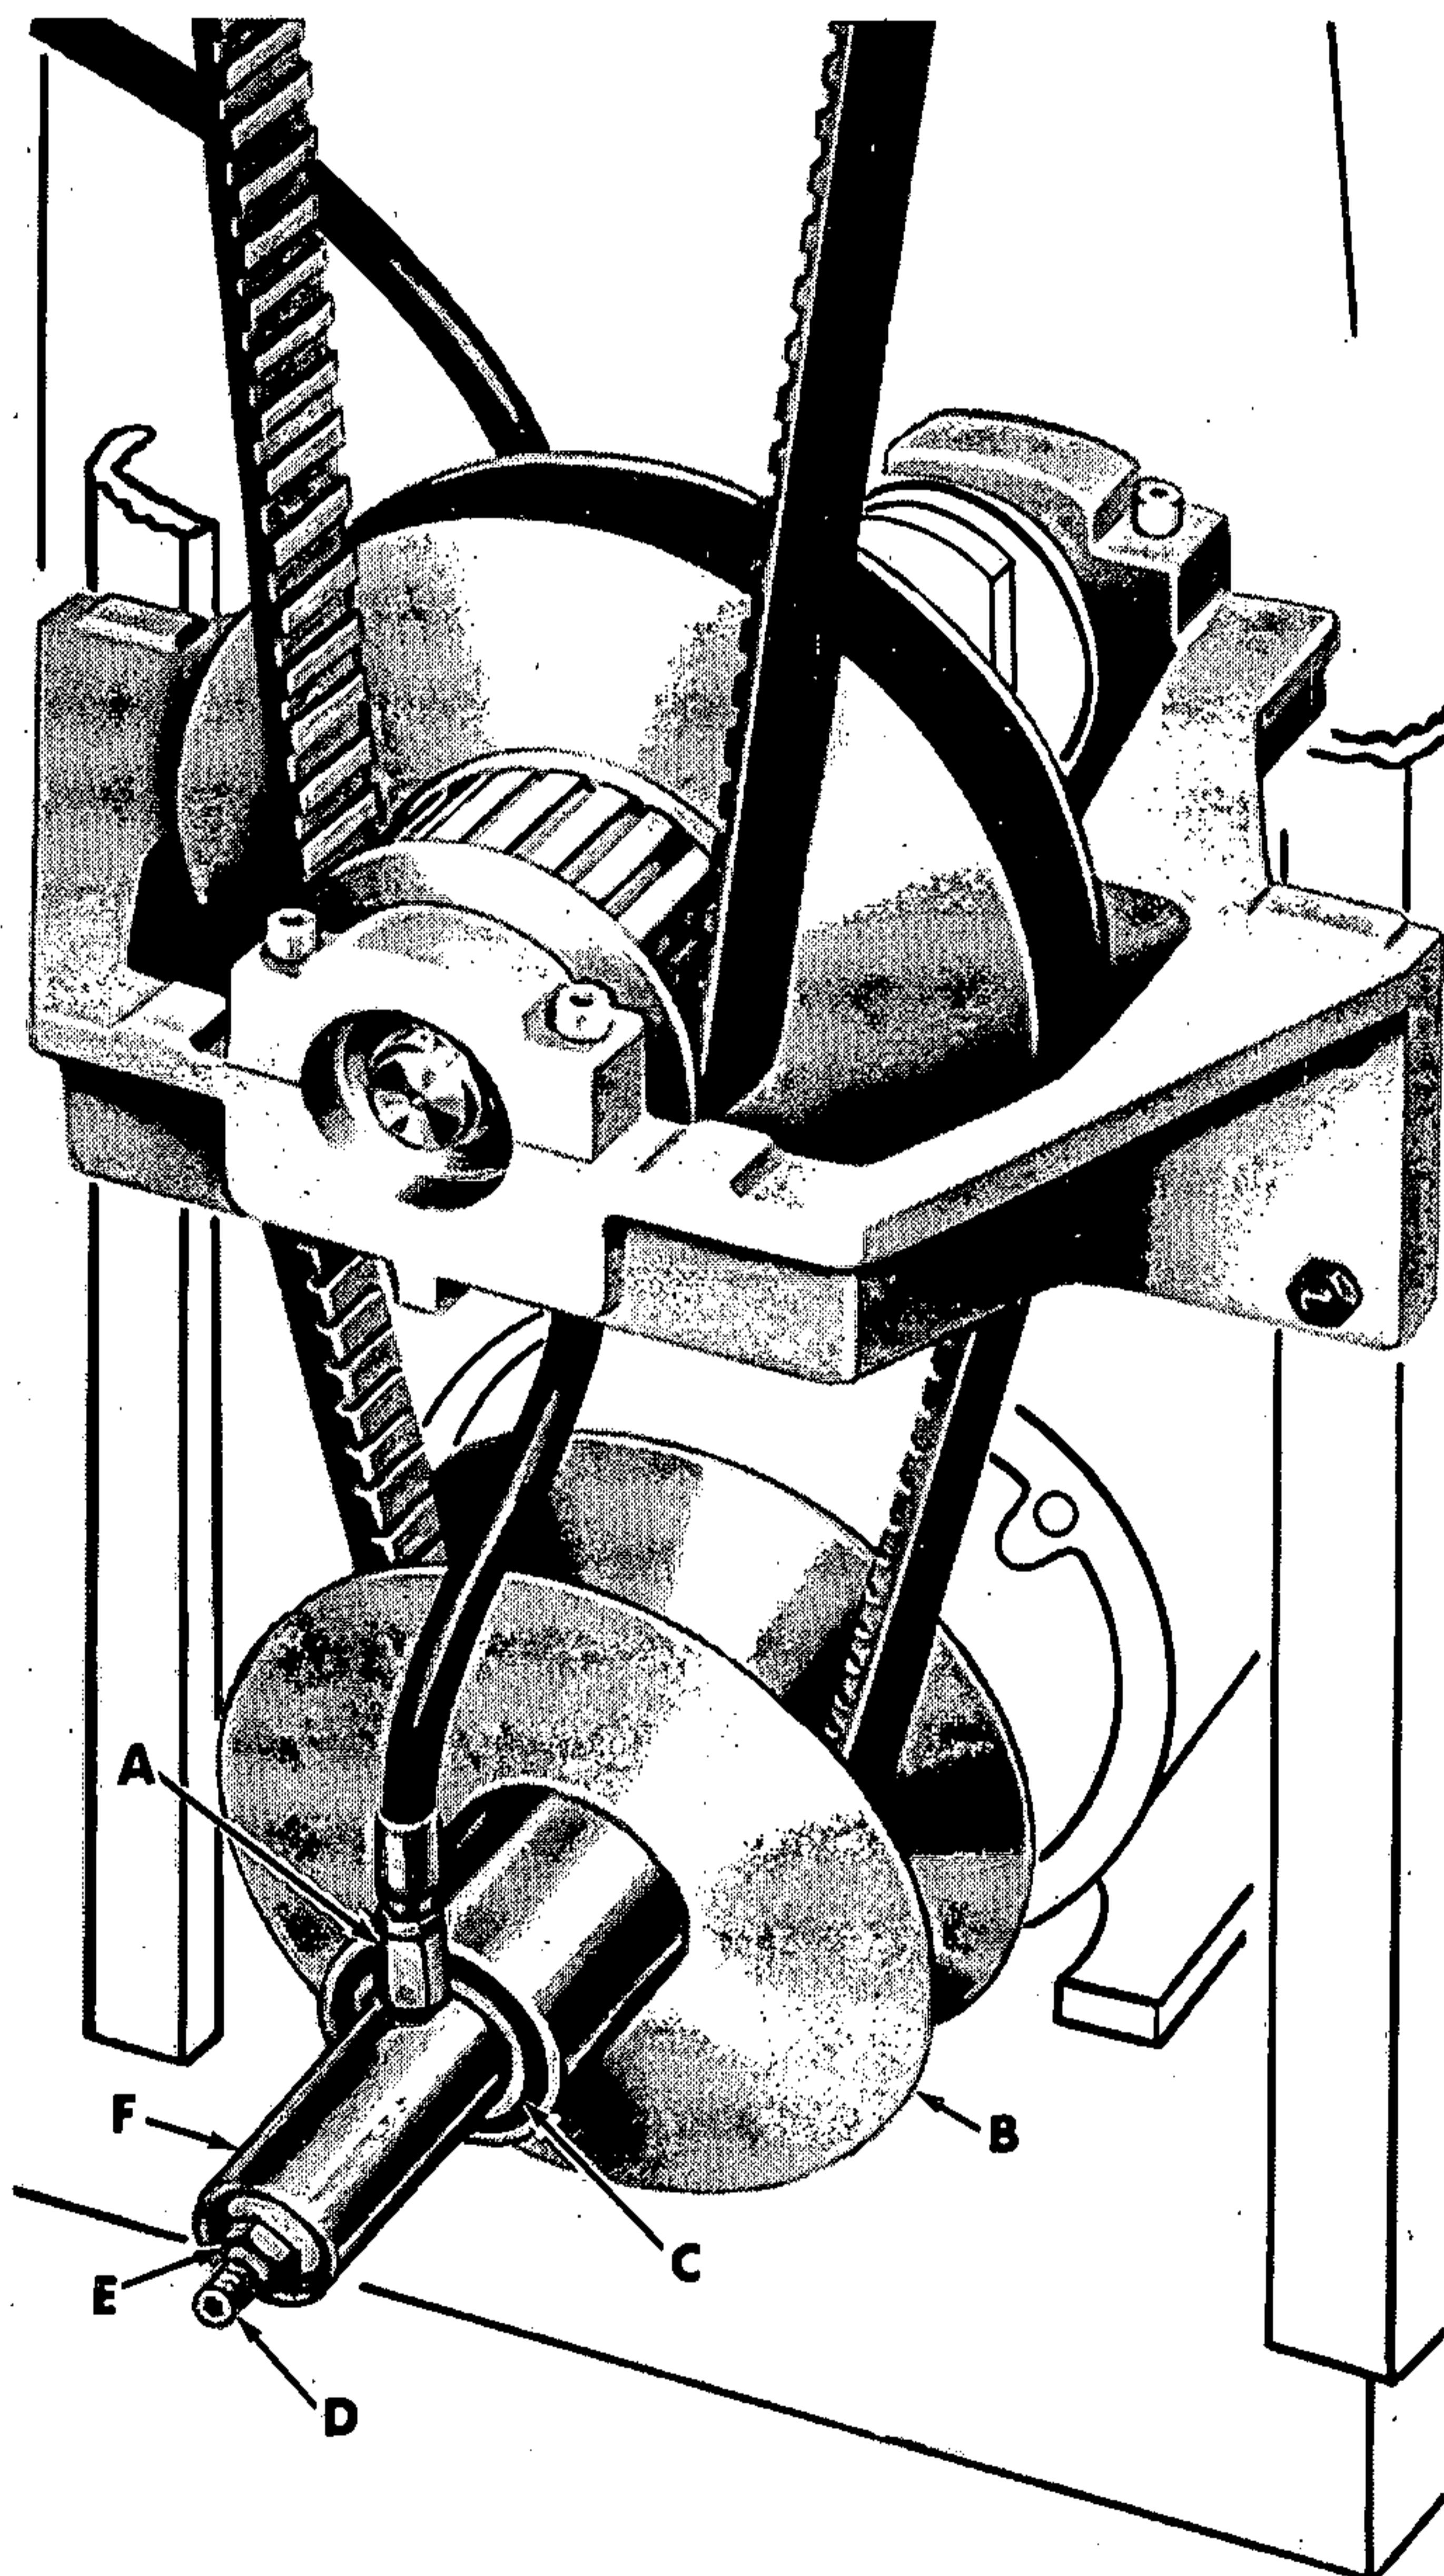

Figure 24
1. Hold nut (E, fig. 24) with wrench, and turn shaft (D) with a socket set screw wrench -- clockwise if speed is too low, counter-clockwise if speed is too high.
- Measure distance from end of shaft (D, fig. 24) to nut (E). NOTE: Record this dimension.
- Disconnect fitting (A) and drain oil from unit.
- While holding shaft (D) with a socket set screw wrench, remove nut (E) and washer.
- Pull hydraulic cylinder (F) and outer half of variable pulley (B) off the shaft (D) and remove stop washer from pulley (B).
- Press hydraulic cylinder (F) with bearing (C) from variable pulley (B).
- Replace the two "O" rings on shaft (D).
- Install stop washer in pulley (B).
- Press new hydraulic cylinder with bearing into variable pulley hub (B), then slide the assembly onto shaft (D) and pulley hub.
- Install sleeve and washer on shaft (D).
- Start nut (E) on shaft (D).